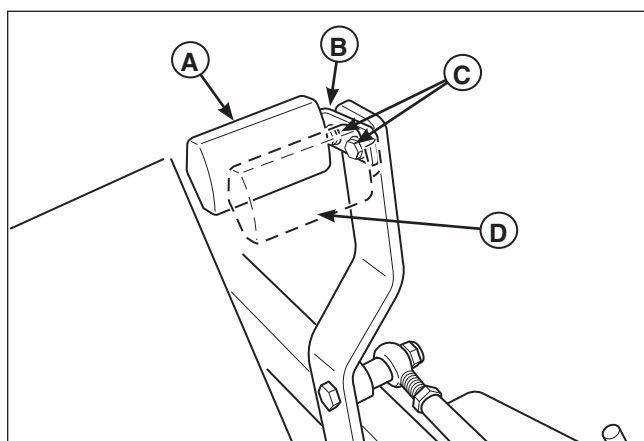

Figure 4. Foot Pedal Adjustment
1. Remove the foot pedal (A, Figure 4) from the pedal mount tab (B).
2. Remove the pedal mount hardware (C) and rotate the tab 180 degrees.
4. Reinstall the foot pedal on the pedal mount tab in the proper orientation as shown in Figure 4.